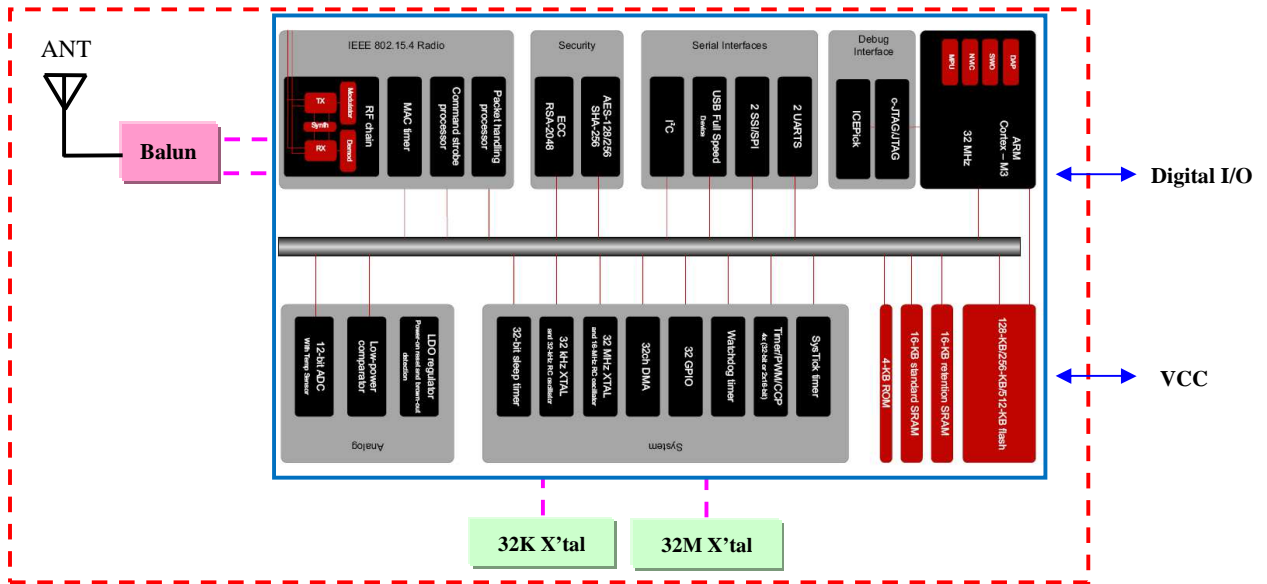

Figure 3-1: DFZM-TT2xx Block Diagram
- The low power module option has a capability of +7dBm output power at the antenna (see Figure 3-1).